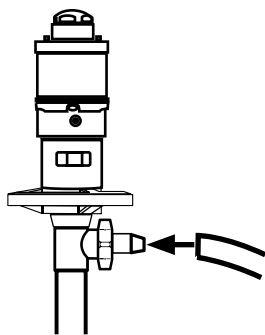

Figure 2
3. Fasten approved hose to the pump discharge hose barb and hand nozzle (See Figure 2 & 3).